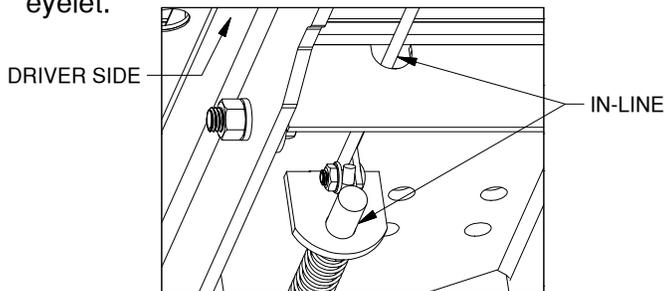

Figure E1: Handle Installation
1. **Insert the handle.** Install the latch pin release handle by inserting it through the slot in the end of the center section on the driver side of the truck. Align the handle eyelet with the square hole in the latch pin so the handle is in line with the latch as shown in Figure E1.